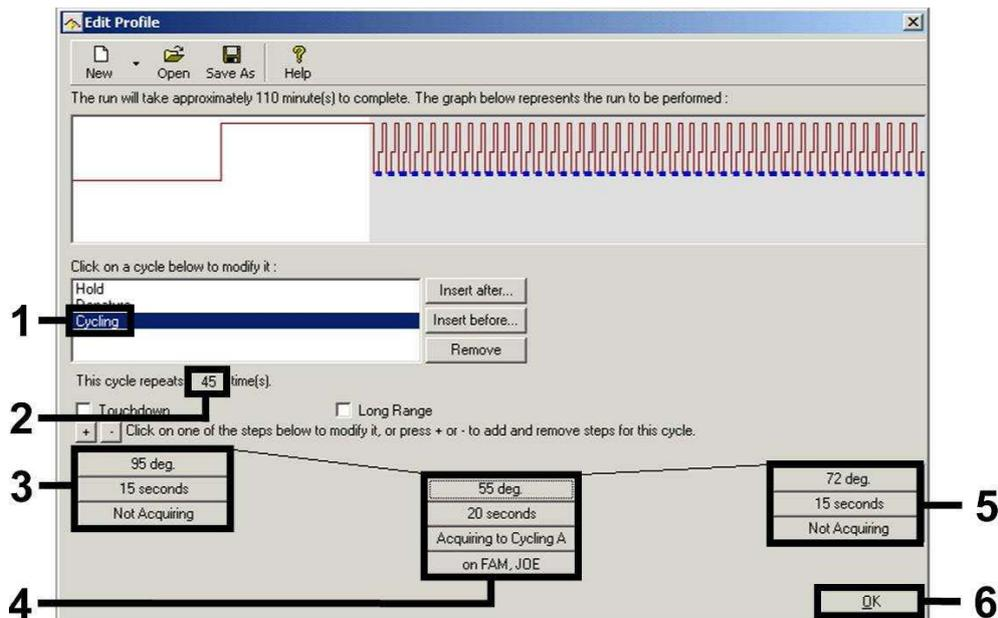

Fig. 6: Amplification of the cDNA.
- D. Amplification of the cDNA Fig. 6